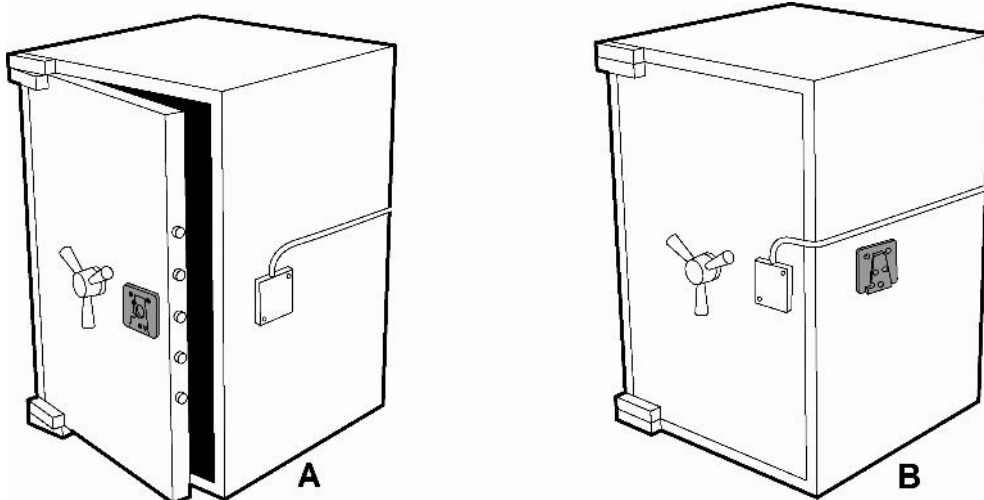

Figure 4-16: GMAS6 installed
Figure 4-16 (A) shows the system disarmed while access to the protected area is required. The detector plate is located on the rest plate to the opening side of the door.
Figure 4-16 (B) shows the system armed with the detector and detector plate mounted on the door plate. If the detector is moved from the door plate, then the two contacts (micro-switch and reed) that are located inside the detector plate open and signal an alarm condition.